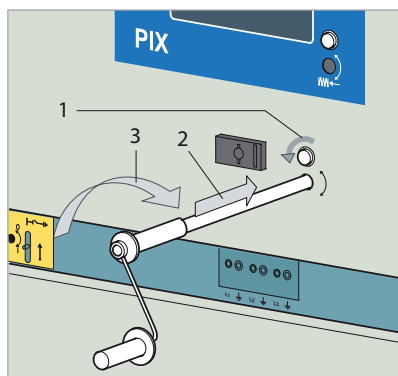
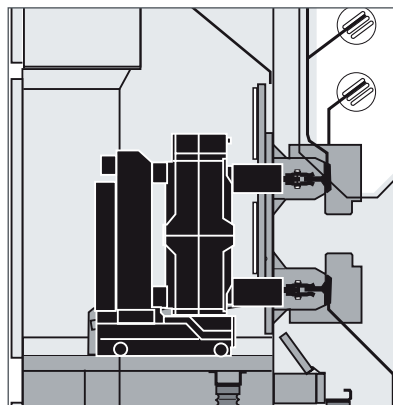

Figure 44
Figure 45
1. Open cover (Figure 44, 1) and insert crank (2).
2. Turn crank clockwise (3) until the truck has been racked in. Remove crank.
3. Check position of truck (Figure 45) through the inspection glass.